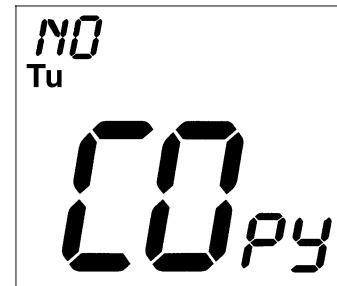

Fig. 5 — Copy Command Display
11. The Copy command can be used to copy the previous day's schedule if the schedules are the same. The copy command becomes available after all the occupied periods are programmed in a day. Use the UP ARROW to change the copy command to YES. Use the DOWN ARROW to change the copy command to NO. Press the Mode button when the choice has been made. See Fig. 5.